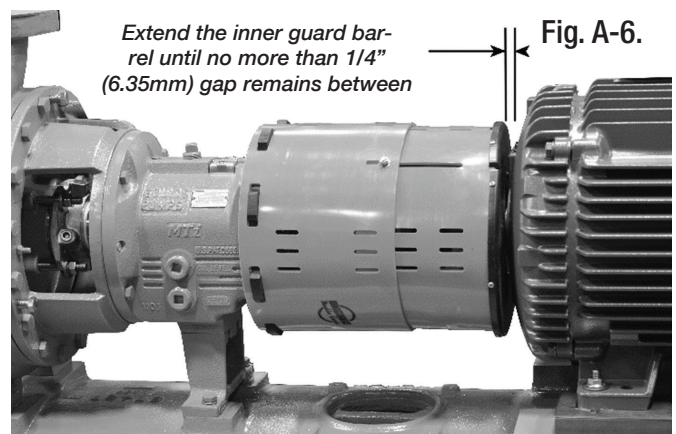

Fig. A-6.
5. Extend the inner telescoping barrel (motor end) until it meets the surface of the motor. Ensure that there is no more than 1/4" gap between guard and motor as shown in Fig. A-6. Tighten the hex head nut to hold extended telescoping portion in place.